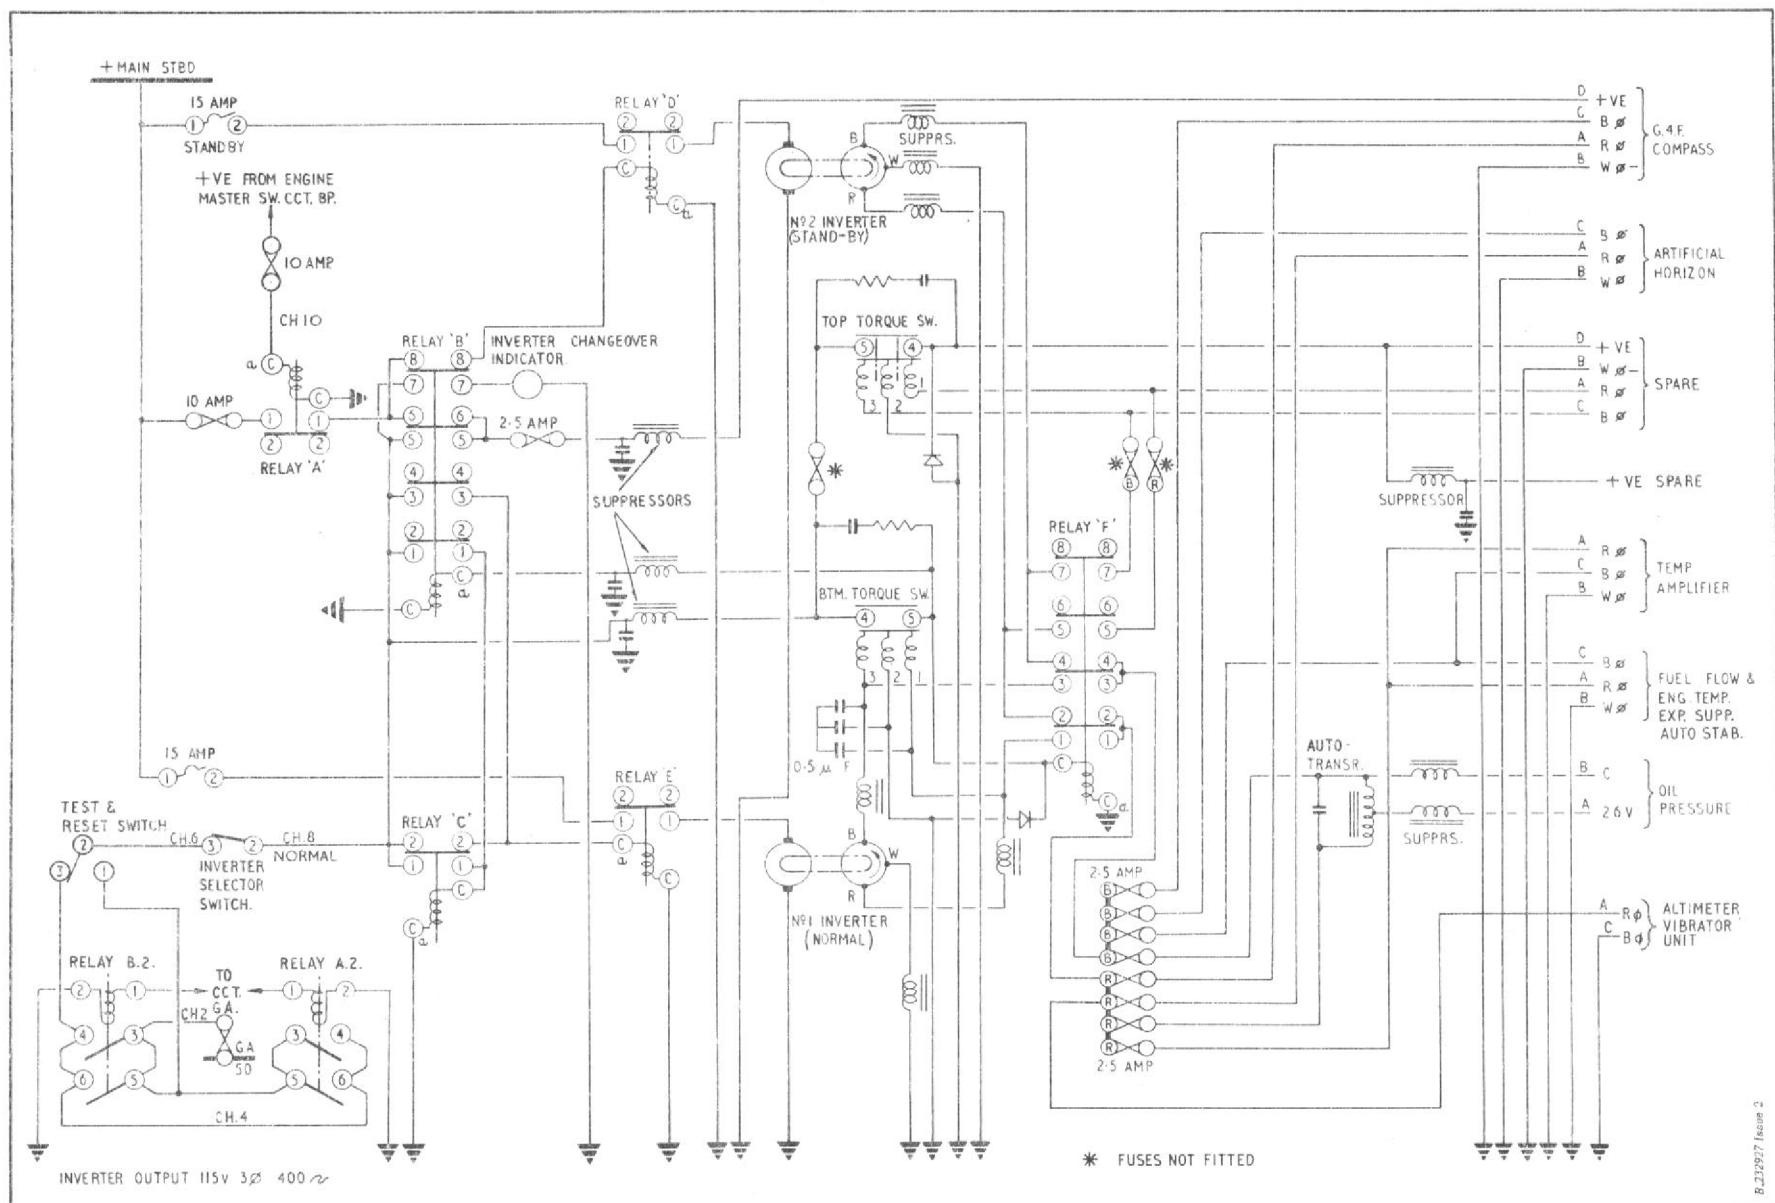

Fig. 1 A.C. Supplies Circuit (Theoretical)
3. The A.C. junction box is mounted on the starboard side of the cabin. It contains the torque switches and relays which effect the automatic switching of the inverters, and the bus-bars from which their output is taken to the a.c.-operated installations. It also contains an auto-transformer for supplying the oil pressure installation; the supply lines to this installation are fitted with radio-interference suppressors. Suppressors are also included in the d.c. lines at points within the junction box (fig.1). The inverters are supplied from the main d.c. supply line, and each inverter is protected by a circuit breaker. The circuit breakers marked NORMAL and STANDBY, are mounted at the top of the A.C. junction box. The STANDBY circuit-breaker is connected to relay D and when energized,